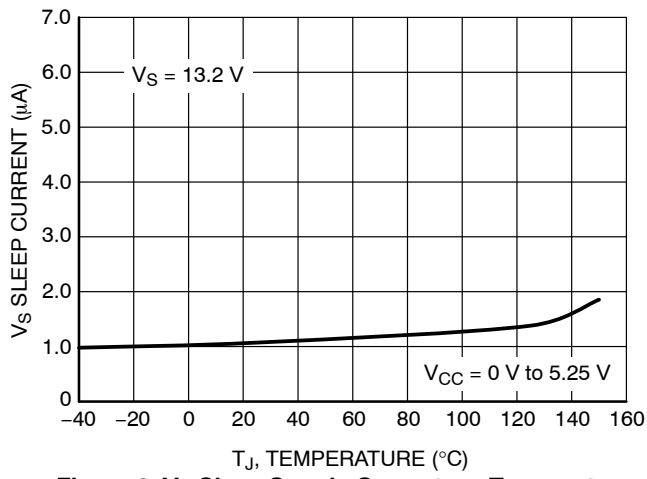

Figure 6. V_S Sleep Supply Current vs. Temperature
5. For temperatures above 85°C , refer to Figure 6.